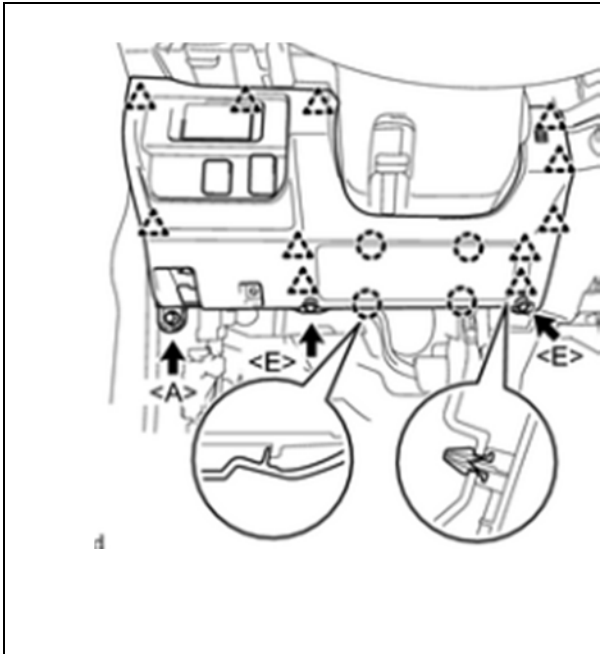

Figure 8a
8. Remove the bolt <A>. Remove the 2 screws <E>. Disengage the 11 clips and 4 claws. Disconnect the connectors to remove the instrument panel lower finish panel sub-assembly. Disengage the claw and 3 guides to disconnect the hood lock control lever sub-assembly. See figure 8a and 8b.